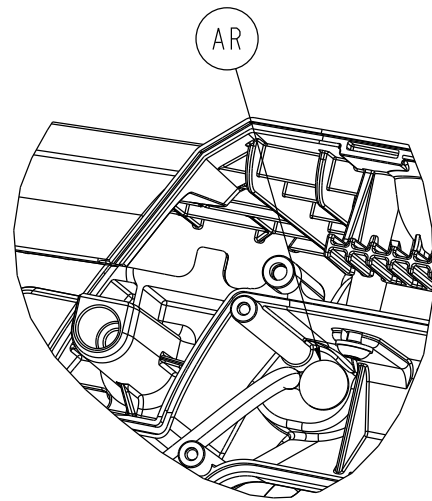

Figure 29 –
21. Using a pick, remove the round hole plug (AR) from the foot section assembly (Figure 29).